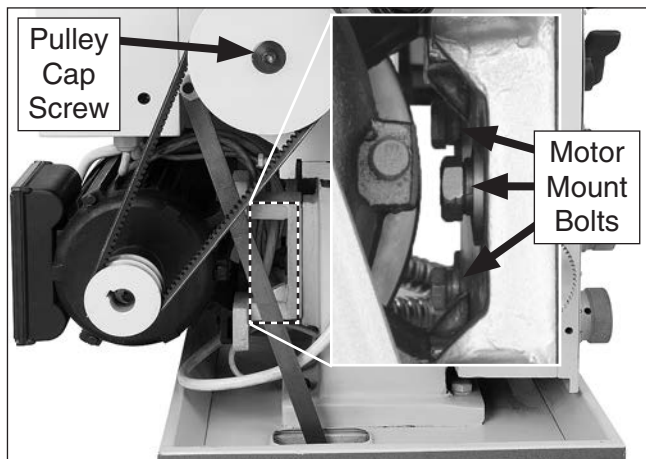

Figure 147. Pulley cap screw.
3. Loosen motor mount bolts (**Figure 147**) and remove belts.
4. Have another person step on brake pedal to lock pulley in place, and remove pulley cap screw shown in **Figure 147**.